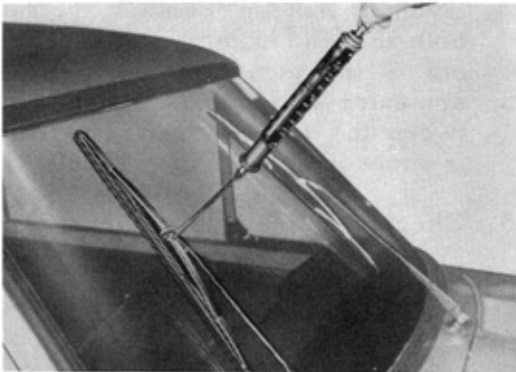

Fig.3-26 Wiper Blade Tension Measurement V0961
2. Measure the blade tension at the position pulled up 2 mm (0.08") as illustrated in the figure 3-26. The blade tension should be 240 to 320 g (530 ~ 700 lbs).